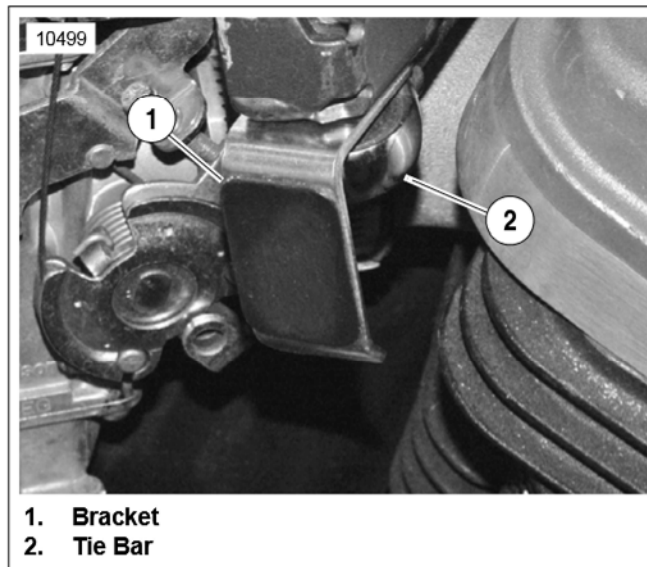

Figure 1. Existing Bracket
3. See Figure 1. Remove existing bracket (1) from tie bar (2). Discard old nut and retain screw for assembly.